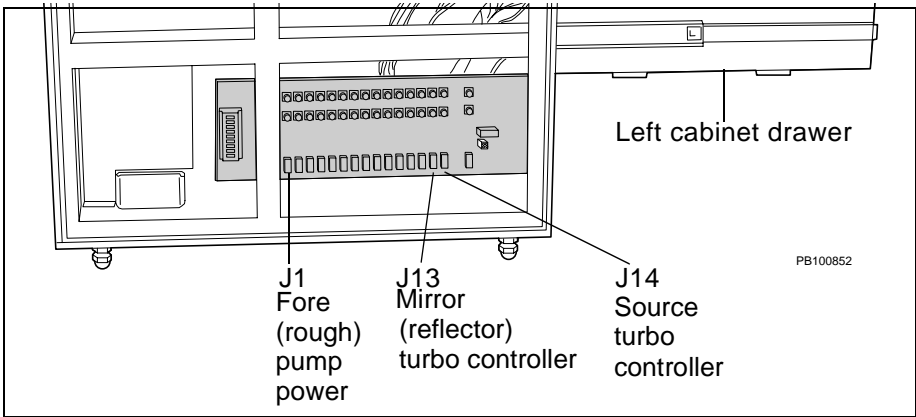

Figure 3-1 AC Power Connectors.
4. On the AC distribution board (Figure 3-1), disconnect (unplug) AC power to the following components:
1. On the AC distribution board, connect (plug in) the fore pump to the J1 connector (Figure 3-1 on page 3-4).
3. When the reading reaches below 3×10^{-1} torr, reconnect the following cables to the AC distribution board (Figure 3-1 on page 3-4):